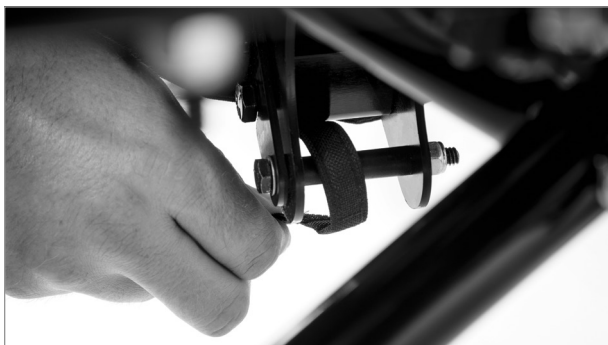

Figure 18
- a. Access the force adjustment by removing the bottom strap of the front cover, as shown. *(figure 18)*